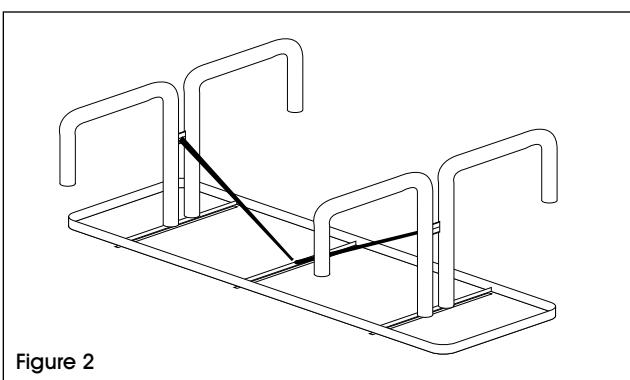

Figure 2
3. Before tightening the bolts, insert cross brace and bolt to the table frame using one bolt, two washers and one nut. (See Figure 2)